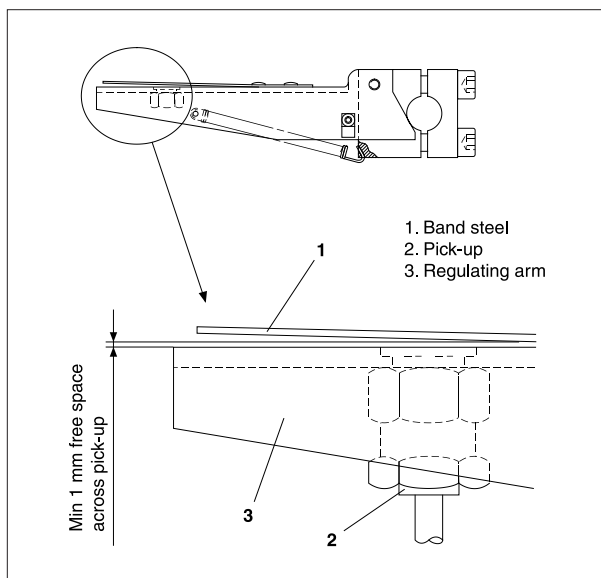

Fig 1.
1. Check that the free space between the pick-up and the band steel on the regulating arm is min. 1 mm, see fig 1.